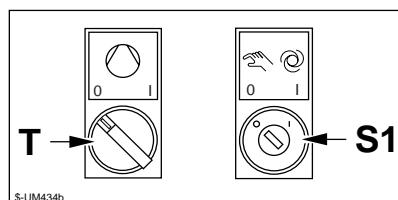

Fig. 4.5
- Turn on the vacuum pump with the switch A (Fig.4.5).